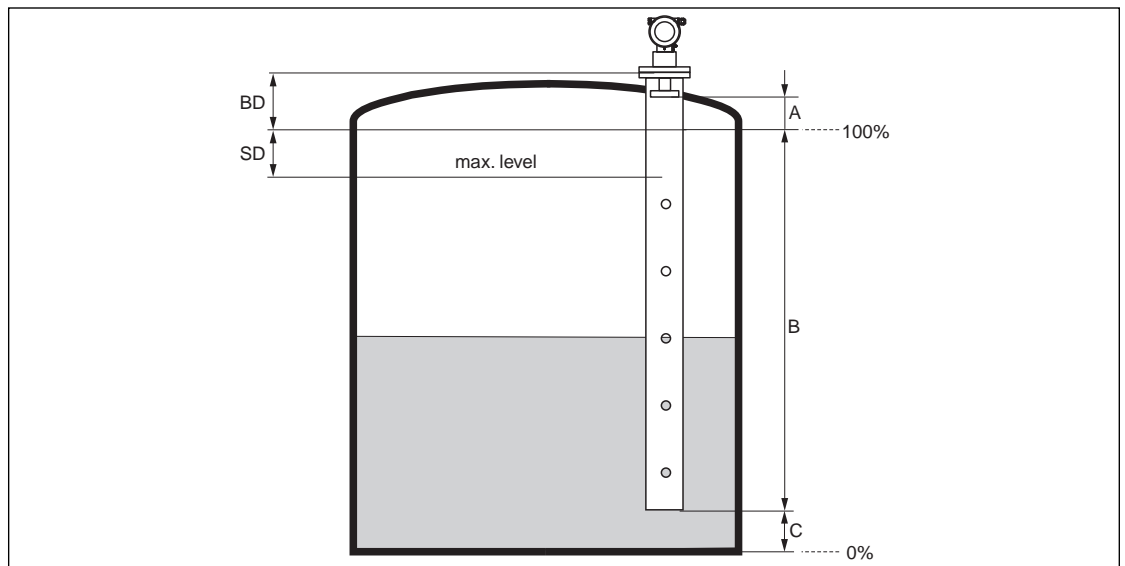

Figure 4-3: Measuring Conditions
- For overspill protection, it is possible to define a safety distance (SD) additionally to the blocking distance (BD).
- The zero should be positioned at the end of the tube, as the electromagnetic waves do not propagate completely outside the tube. It must be taken into account that the accuracy may be reduced in the area C. In order to guarantee the required accuracy in these cases, it is recommended to position the zero-point at a distance C above the tank bottom (see Figure 4-3).
- In applications with planar antennas, especially for media with low dielectric constants (media group A and B, (see Table 4-2 on page 14), the end of the measuring range should not be closer than 1 m (40") to the flange (see A in Figure 4-3).
- The safety distance (SD) is set to 0.5 m (20") by default, generating an alarm in case the product level rises inside the safety distance.